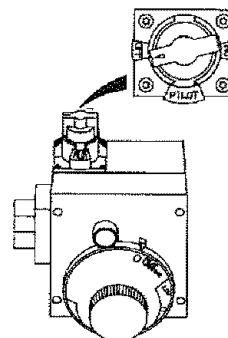
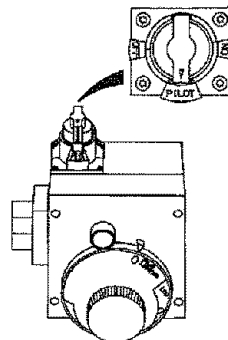

Figure 6
Figure 7
4. Turn gas control knob clockwise (↻) to "OFF" position. Knob cannot be turned from "PILOT" to "OFF" unless knob is depressed slightly. **DO NOT FORCE.** (Figure 6, page 17)
5. Wait five (5) minutes to clear out any gas. If you then smell gas, STOP! Follow "B" in the safety information above on this label. If you don't smell gas, go to the next step.
8. If you don't smell gas, turn knob on gas control counter clockwise (↺) to "PILOT" position. (Figure 7, page 17)
9. Push in control knob all the way and hold down. Immediately light the pilot with a match. Continue to hold control knob in for about one (1) minute after the pilot is lit. Release knob and it will pop back up. Pilot should remain lit. If it goes out, repeat steps 3 through 8.
- If the pilot will not stay lit after several tries, depress and turn the gas control knob clockwise (↻) to "OFF" and call your service technician or gas supplier. (Figure 6, page 17)